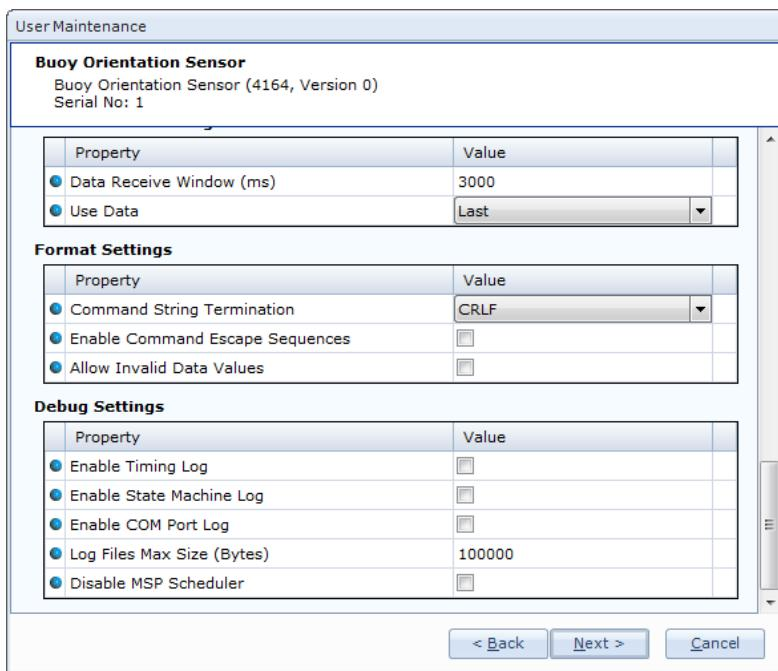

Figure 6-7 User Maintenance > sensor
- Perform sensor **User maintenance** settings: Refer chapter 4.3 for a short description. User Maintenance holds properties necessary to operate the sensor in accordance with the way the user has chosen to apply the actual sensor: open **Device Configuration** tab, check **Include User Maintenance** and press **Get Current Configuration** then press **Edit..** in the User Maintenance heading, select the actual sensor in the sensor list and press **Configure Selected....** Refer Figure 6-7 User Maintenance > sensorFigure 6-7 and Table 6-1 for a description of settings; refer TN 362 for some sensor examples.